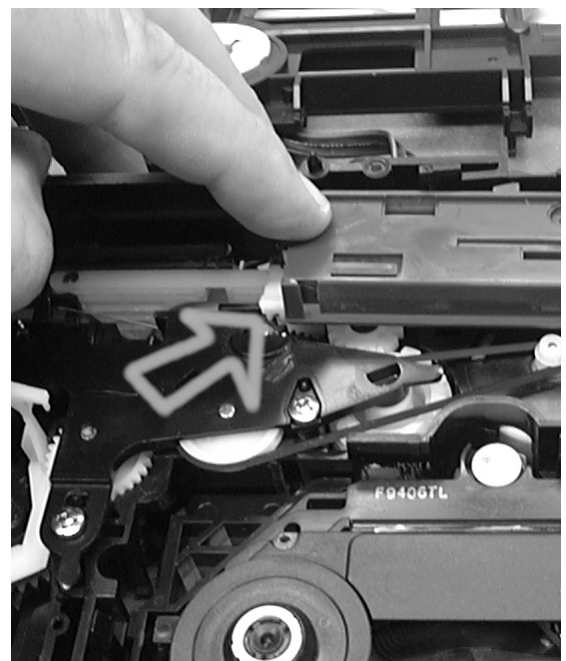

Figure 10
- 2) While holding the drive rack (332), insert the disc tray assembly into the mechanism. Align the tray base (331) so that the drive gear tooth (311) is aligned in the first tooth of the drive rack. Do not let the right side of the tray base rise upward after this has been aligned (Figure 10).
- 3) Rotate the pulley gear (313) 5 or 6 revolutions to bring in the disc tray then push the tray in all the way. As stated earlier do NOT rotate the gear while the mechanism is upside down or sideways. This will cause binding of the mechanism.